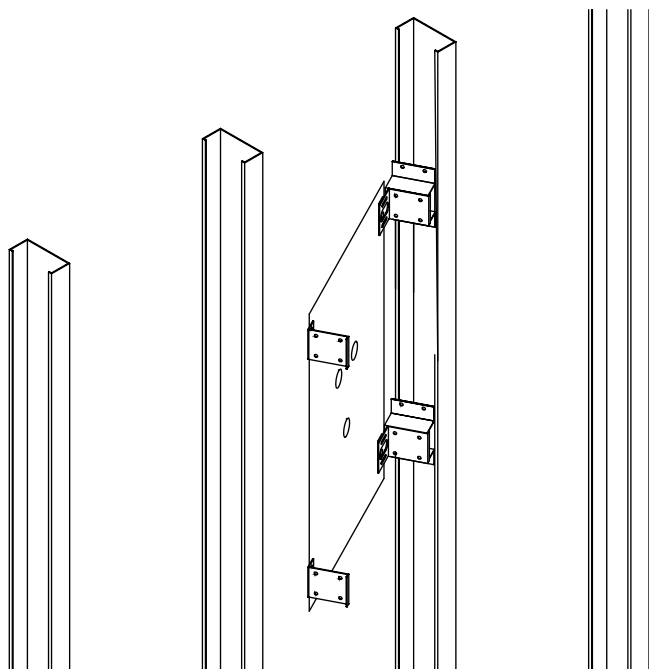

fig. 13
4. Insert the Installation Aid/Mounting Bracket into the opening (please see fig. 13).